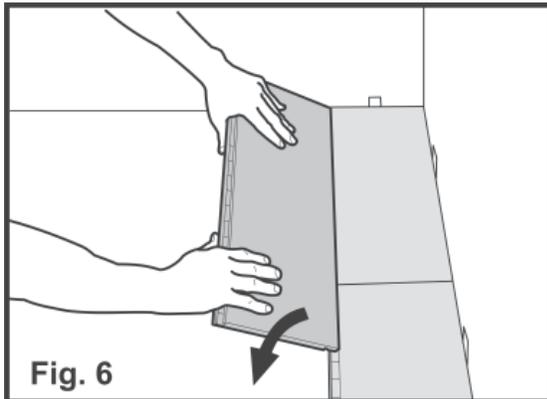

Fig. 6
3. After installation of entire first row, boards in subsequent rows will engage locking pins of previous row as they are installed. Refer to Fig. 6 on next page.
Install second row boards as shown in Fig. 6. If possible, start second row with left-over piece from last board of first row. Hold board at approx. 20° - 30° angle to board in front. Press forward to engage joint and lay flat on floor. Continue until entire second row is installed. End joints must be staggered by at least 20". Butt seam must be placed in each row regardless of width, e.g. hallways.